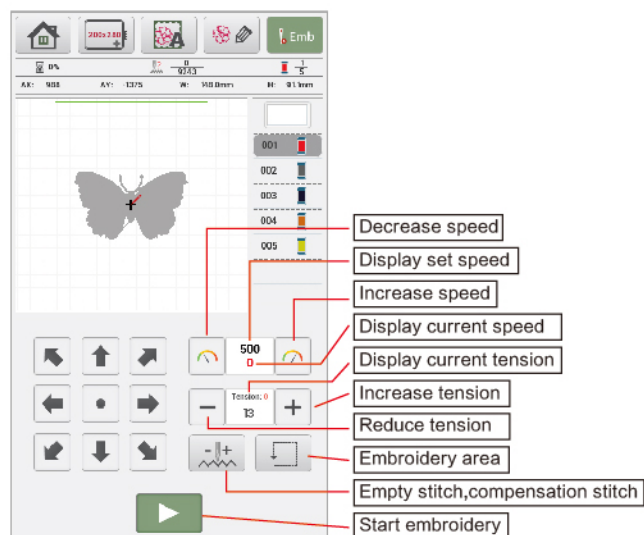

Figure 3
(5) When all editing process is finished, click e. embroidery confirmation key to enter Figure 3 interface. Then click embroidery start to embroider.
(6) After finishing embroidery, lift the presser foot and take out the hoop to finish the embroidery operation